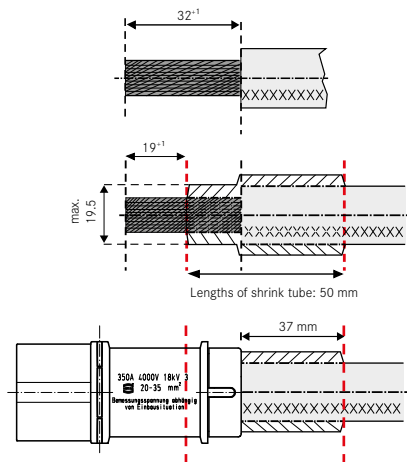
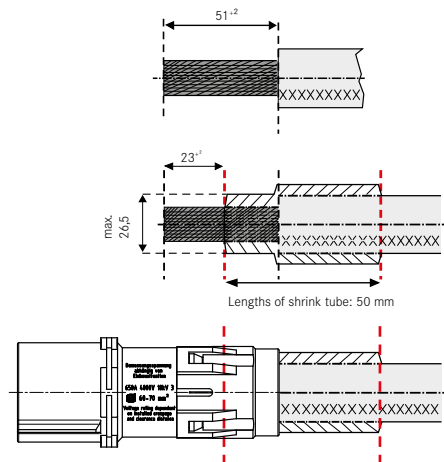

Figure IV-11: Shrink tube assembly over the cable for Han® HC Modular 350
Figure IV-12: Shrink tube assembly over the cable for Han® HC Modular 650
- ① Strip the cable according to Figure IV-11 and Figure IV-12.
- ② The following points must be observed when applying the shrink tube directly on the cable:
- ③ Terminate the cable to the torque specified for the wire gauge (see Table IV-2, p. 32 et seq.):